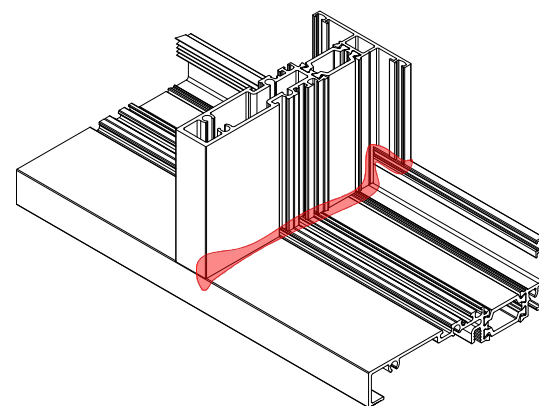

FIG. 5
- h. Using a tooling stick (popsicle stick) tool all the excess sealant on the interior portion of the corner flat to the horizontal section. **See FIG 5.**